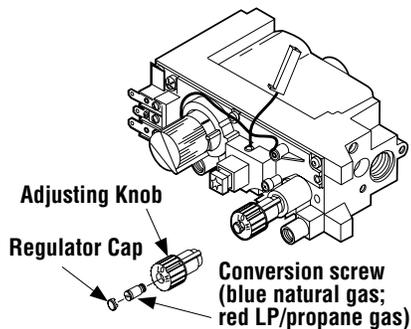

Figure 67
a. Convert the gas valve as follows (see **Figure 67**): Remove the plastic protecting cap. Remove the gas type setting screw by turning it counter-clockwise. Obtain the replacement gas type setting screw from the kit and screw it into place (red for propane and blue for natural gas). Tighten the gas type setting screw by turning it clockwise. Replace the plastic protecting cap.